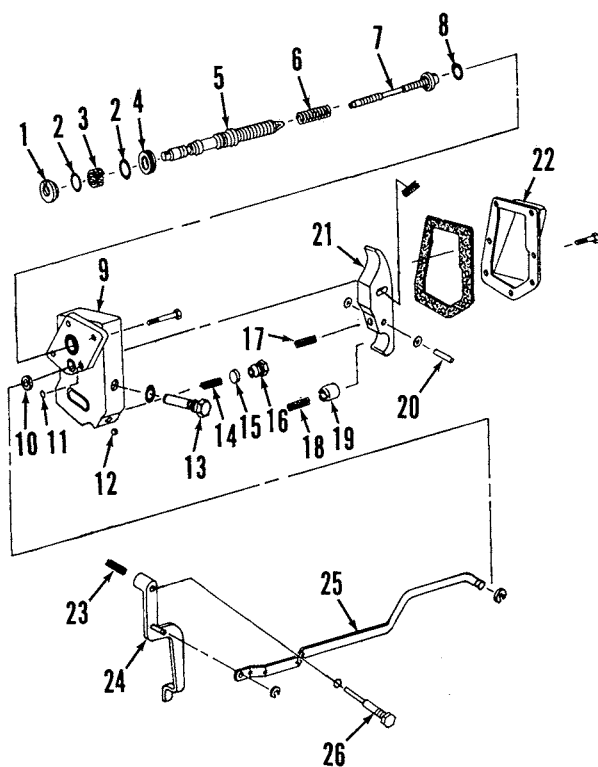
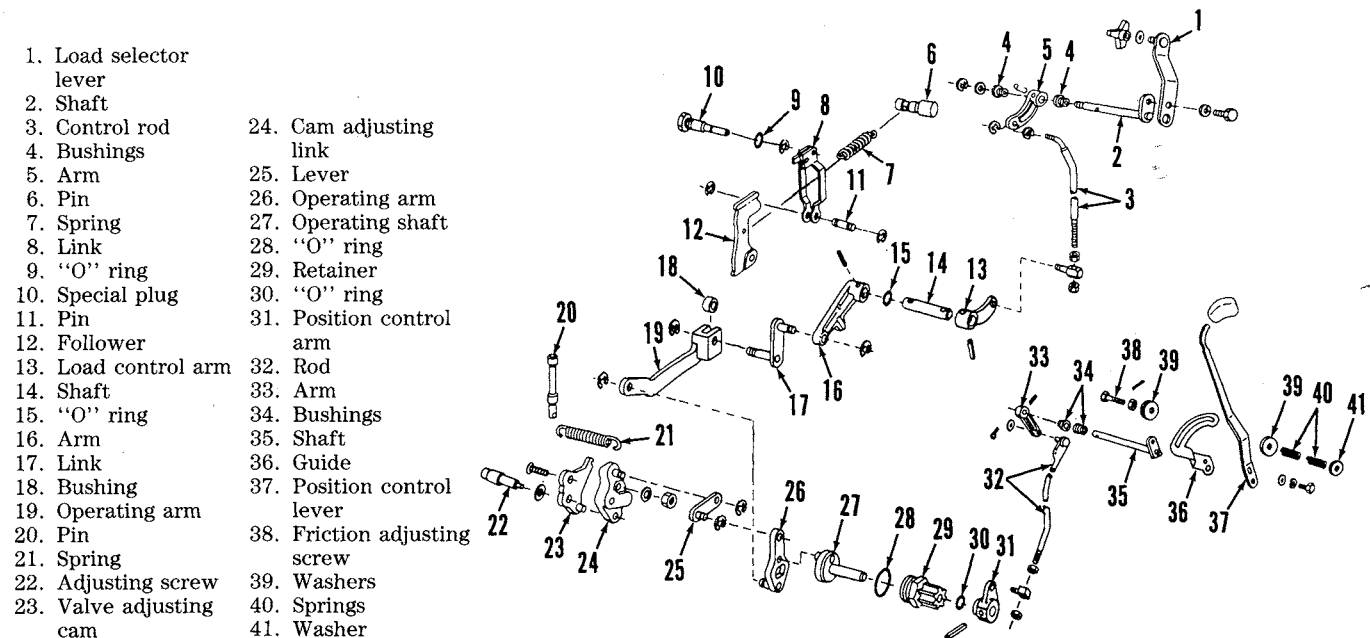

Fig. 255—Exploded view of load control valve housing showing component parts used on Models 4050, 4250 and 4450.
Fig. 257—Exploded view of rockshaft control linkage.
On Models 4050, 4250 and 4450, remove load control valve cover (22—Fig. 255) from valve housing. Remove special plug (13), then tap on side of valve housing to remove rocker arm pivot pin (20). Remove "E" clip, then slide rocker arm (21) off operating rod (25). Remove damping piston (19), return spring (18), valve seat (16), valve disc (15) and spring (14). Remove load control valve (7) assembly. Remove load control valve housing (9).
To disassemble rockshaft linkage, proceed as follows: On Models 4050, 4250 and 4450, remove load control valve rod (25—Fig. 255), special plug (26) and load control arm follower (24). On all models, remove load control selector lever (13—Fig. 257) with shaft (14) and control arm (16). Disconnect springs (7 and 21). Remove "E" clip from special plug (10), then withdraw plug and remove servo cam follower assembly (8 and 12). Drive out spring pin and remove operating arm (31). Remove retainer (29) and control shaft (27). Remove operating links (17, 19, 25 and 26) as an
en operating shaft retainer (29—Fig. 257) to 100 ft.-lbs. (136 N·m). Install thermal relief valve assembly and flow control valve assembly using same number of shims as removed.